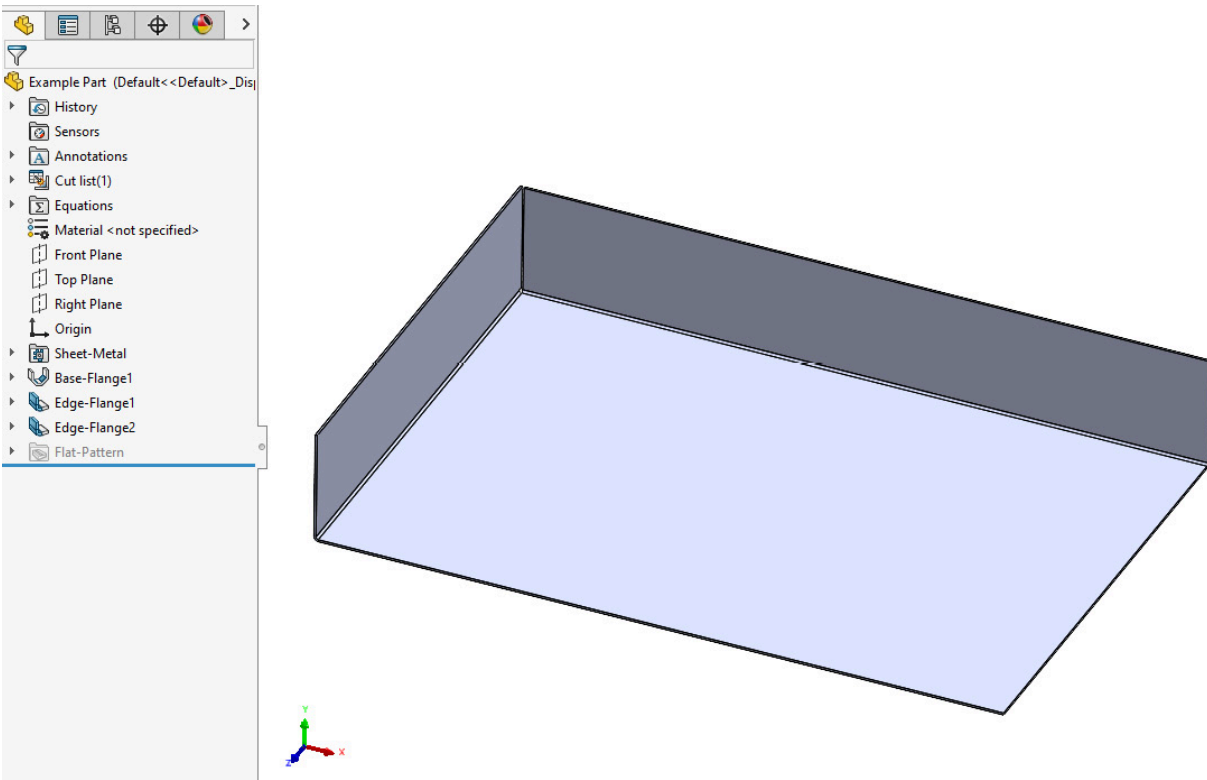

Figure 2.23: One Base Flange and two Edge Flange features
3. Add a second Edge Flange feature on one of the long edges of the Base Flange, using the same settings as in *Step 2*. You should now have a Base Flange with two raised Edge Flanges (*Figure 2.23*).